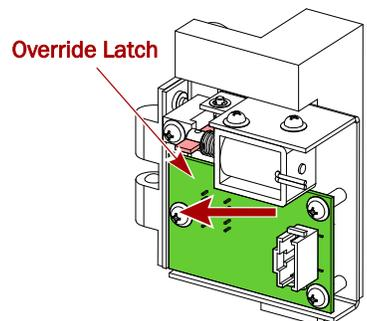

Figure 3. Media Drawer Latch Release, Rear View
4. From the left side, at the back of the bottom-left media drawer, press the door's **latch release** (Figure 3) and push the **media drawer** forward.